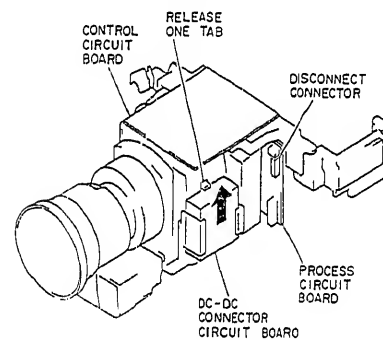

Fig. 2-15
1. Disconnect connector CN205 from the process circuit board. (See Fig. 2-15)
2. Release one (1) tab and pull out the DC-DC converter circuit board from its holder in the direction of arrow.